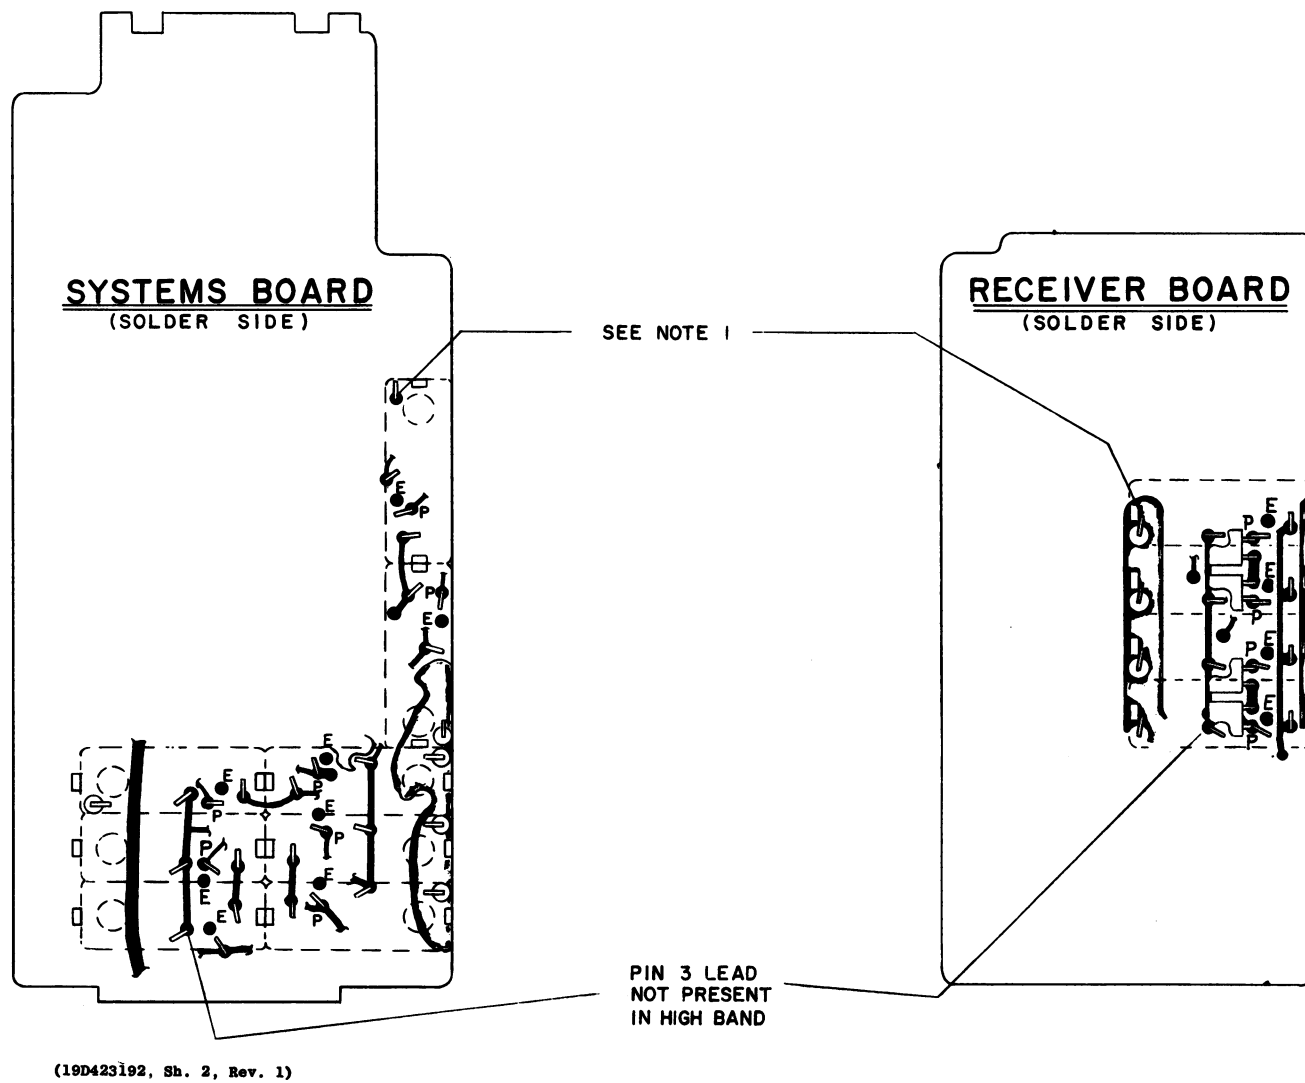
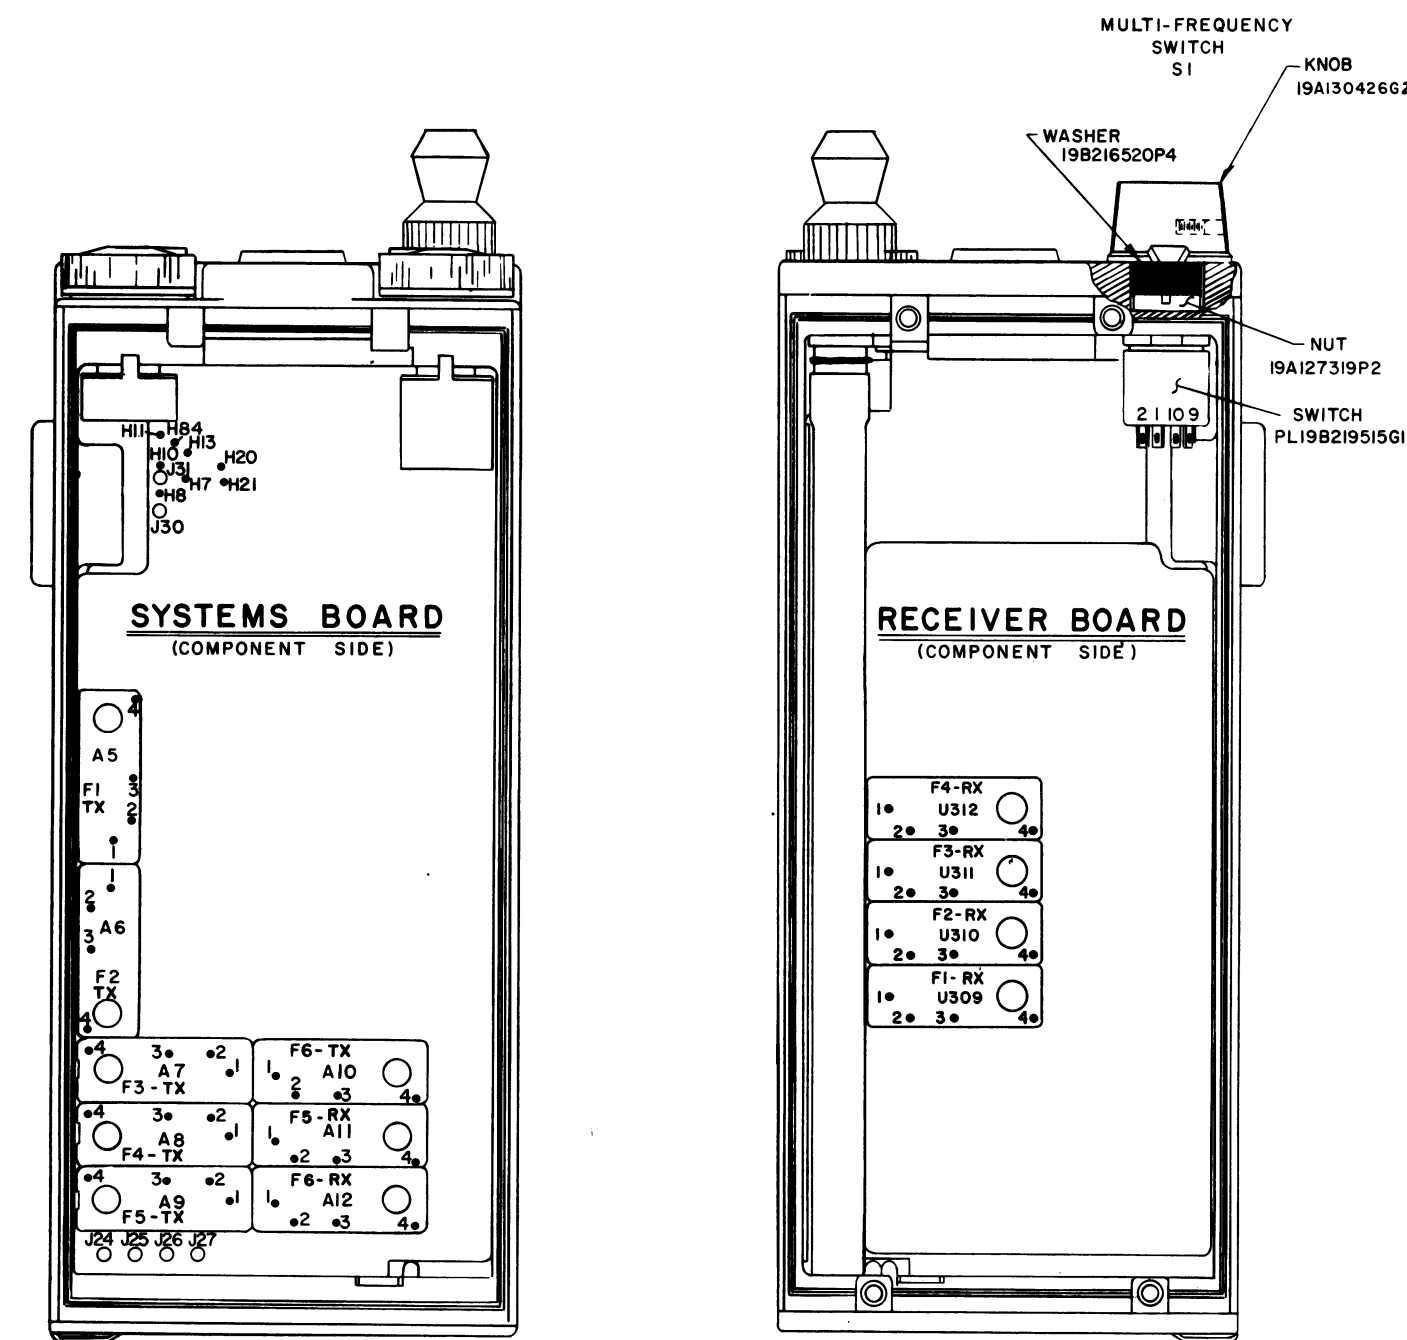

Figure 2 - Oscillator Module and Diode Installation
Figure 3 - Oscillator Mounting Positions & S1 Connection Points
- After completing the stop post adjustment, connect the leads from multi-frequency switch S1 as shown in the following chart (see Figure 3 for connection points). Tape back all unused leads.
- Place the oscillator module(s) in the proper holes (see Figure 3). Then bend over tabs on the can and solder to the adjacent pads (see Figure 2).
- Bend the leads of the oscillator module as shown in Figure 2 (or appropriate Outline Diagram) and solder to the adjacent pads.
- Install the oscillator(s) whose frequencies are to be repeated as directed above except solder the Number 2 pin to the "E" pad instead of the "P" pad (see Figure 2).